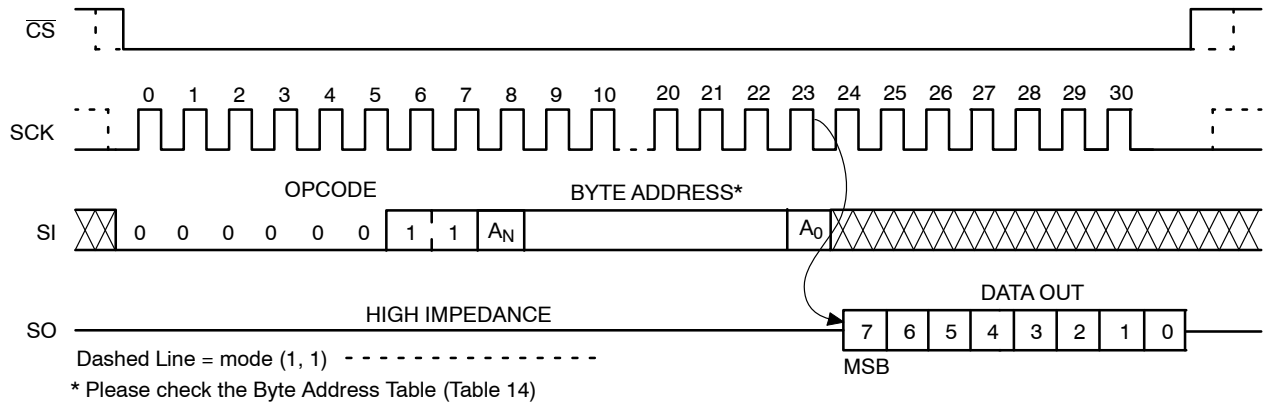

Figure 9. READ Timing
After receiving the last address bit, the CAT25256 will respond by shifting out data on the SO pin (as shown in Figure 9). Sequentially stored data can be read out by simply continuing to run the clock. The internal address pointer is automatically incremented to the next higher address as data is shifted out. After reaching the highest memory address, the address counter “rolls over” to the lowest memory address, and the read cycle can be continued indefinitely. The read operation is terminated by taking $\overline{CS}$ high.
Reading the additional 64-byte Identification Page (IP) is achieved using the same Read command sequence as used for Read from main memory array (Figure 9). **The IPL bit from the Status Register must be set (IPL = 1) before attempting to read from the IP.** The [A5:A0] are the address significant bits that point to the data byte shifted out on the SO pin. If the $\overline{CS}$ continues to be held low, the internal